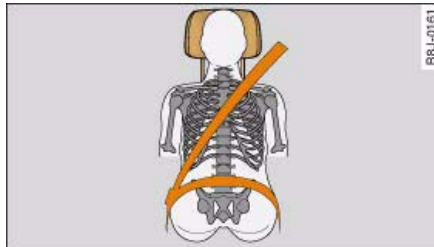
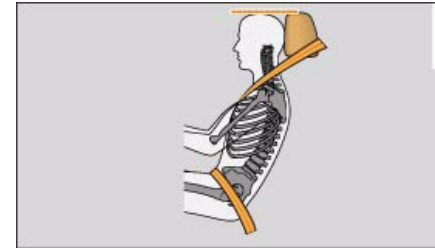

Fig. 164 Correctly adjusted head restraint (seen from the front)
Fig. 165 Correctly adjusted head restraint (seen from the side)
- Adjust the head restraint so that the top of the head restraint is level with the top of your head ⇒ *fig. 164* and ⇒ *fig. 165*.